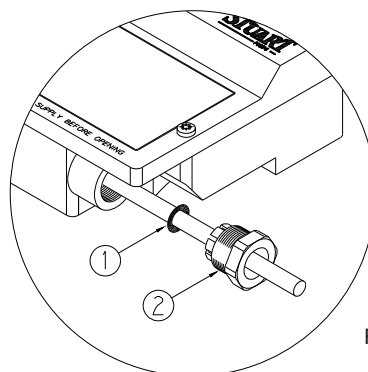

Fig. 20
To enable correct assembly of the cable gland, the 'O'-ring (Fig. 20 item 1) must be placed over the cable before the clamping insert (Fig. 20 item 2) can be tightened as shown.